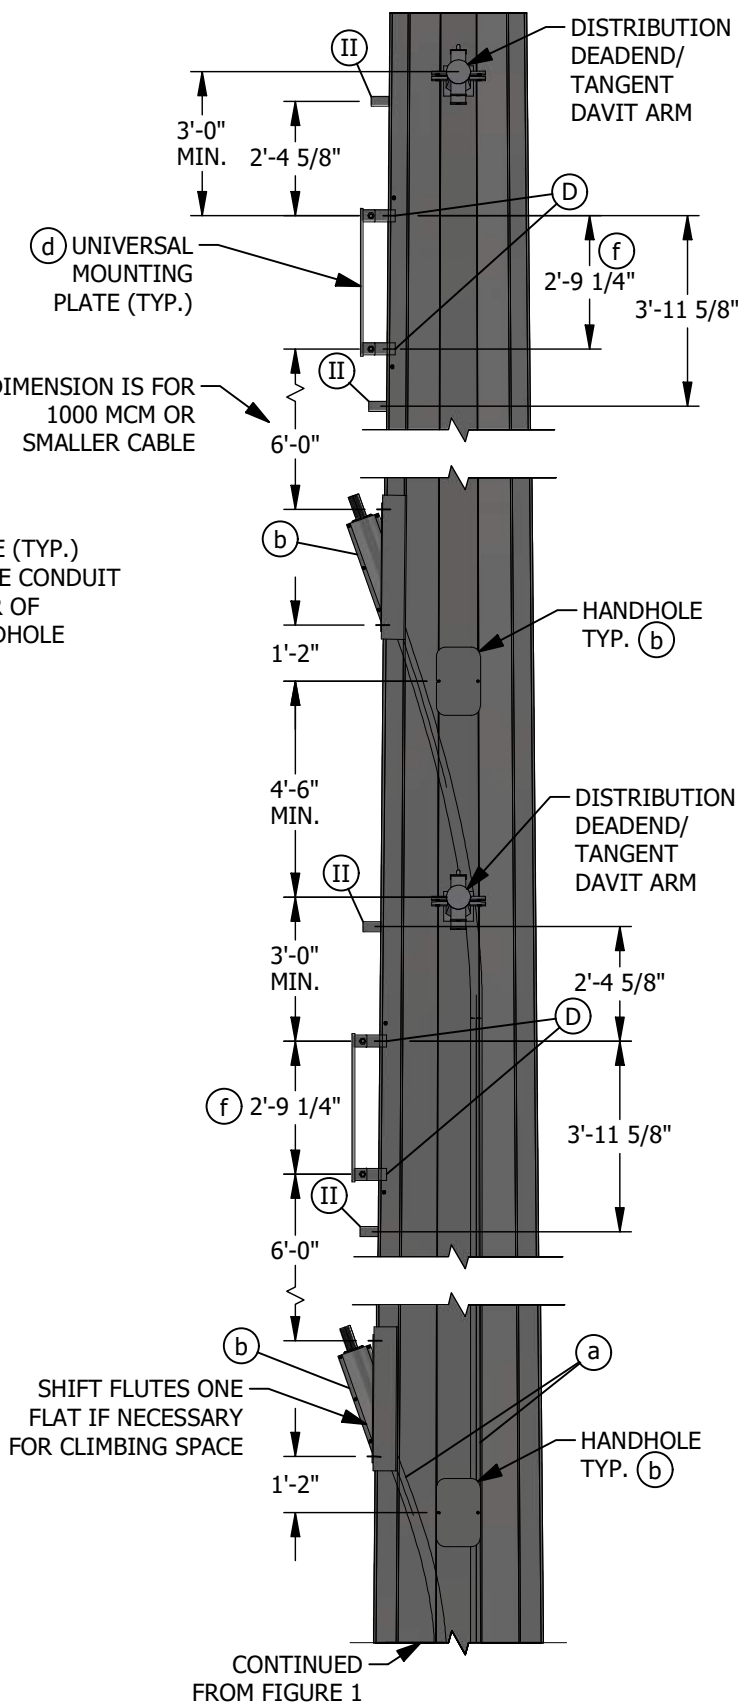

FIGURE 2
- A. IF BOTTOM FLUTE IS UTILIZED FOR SECONDARY SERVICES, ALLOW FOR SECONDARY VANG(S) AND REFERENCE SECONDARY STANDARDS, WHICH ARE CURRENTLY BEING DESIGNED.
- (D) ENSURE POLE MANUFACTURER DRILLS FOUR 5/8-INCH THROUGH HOLES ON EACH SIDE OF THE MOUNTING BRACKET (AS SHOWN IN FIGURE 2) AND WELD 1/2-INCH STAINLESS STEEL NUTS OVER EACH HOLE.